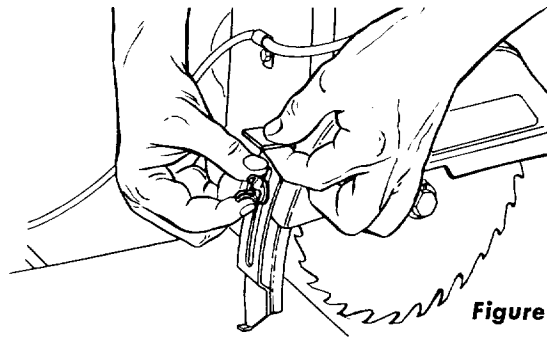

Figure 44
- a. Grasp the tab (figure 44) at the upper end of the sawdust chute, loosen the wing screw and raise or lower the chute to just clear the top surface of the workpiece.
- b. Tighten the wing screw (figure 44).